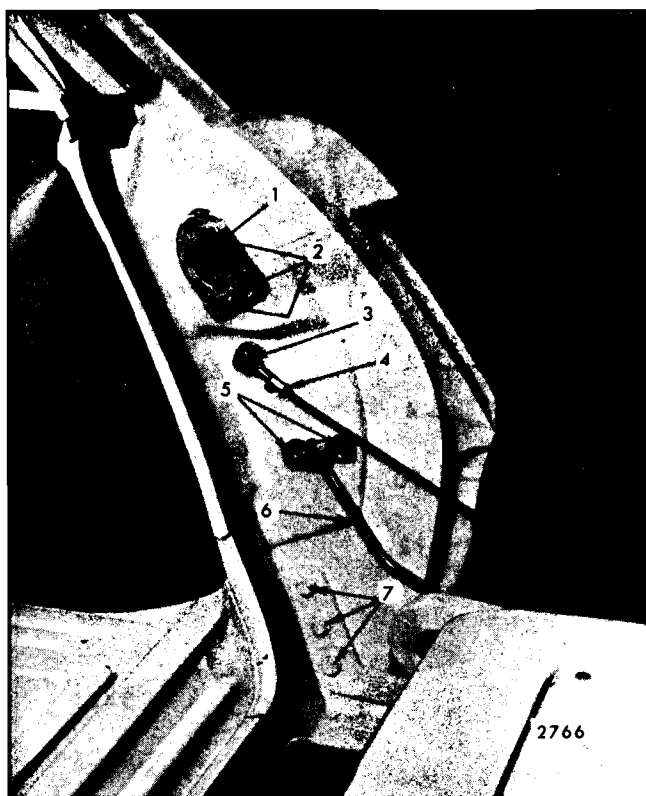

Fig. 9-38—Tail Gate Torque Rod, Hinge and Support Attachments
2. Remove tail gate hinge attaching bolts from both gate and body (Figs. 9-38 and 9-39).
2. Remove bolts securing support to tail gate and body lock pillar. Disengage support return spring (at body lock pillar or tail gate end) and remove support (Figs. 9-38 and 9-39).
3. While properly supporting tail gate, remove right and left support cable attaching bolts. (See Figs. 9-38 and 9-39).